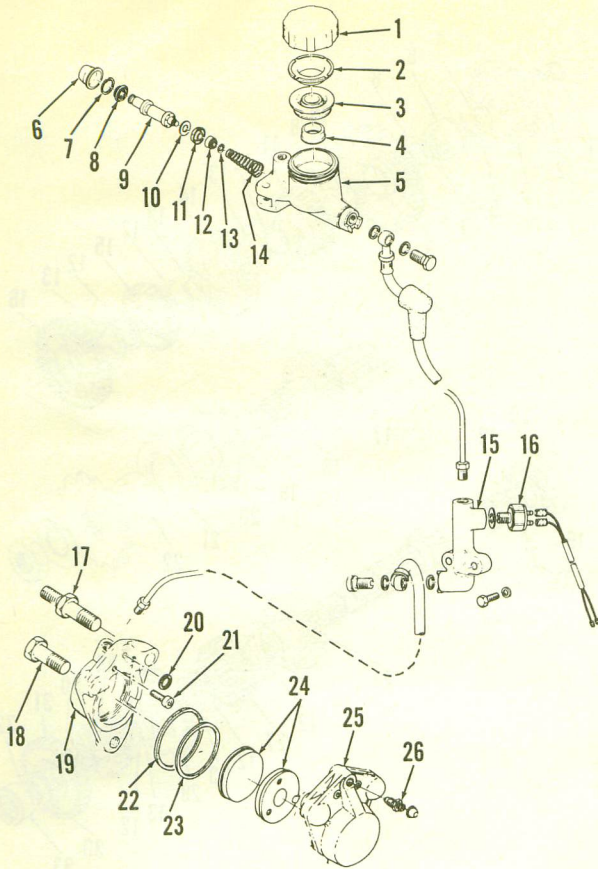
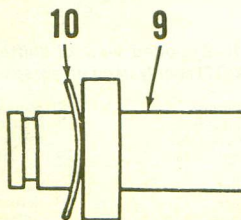

Fig. Y11-6—Exploded view of hydraulic brake system used on models RD350 and RD350A.
Fig. Y11-7—Install spacer (10) on piston (9) with concave side towards end of piston.
If air is present in hydraulic brake system, use the following procedure to bleed brake. Attach end of bleeder hose to bleeder valve (26—Fig. Y11-6) and submerge other end of hose in brake fluid to prevent air from re-entering
Each brake pad has an indicator tab which is painted red or has "INDICATOR" written on it. See Fig. Y11-5A. Renew brake pads if worn to less than 0.5mm (0.020 in.) between edge of pad and wear tab. Wheel and disc must be removed to obtain access to pads. Minimum disc thickness is 6.5MM (0.256 in.) and maximum disc run-out is 0.15MM (0.006 in.). Tighten disc mounting bolts to 80-100 kg.-cm. (70-87 in.-lbs.). Refer to Fig. Y11-6 for exploded view of brake system. Refer to the following points when overhauling caliper and master cylinder: Remove piston from caliper by directing compressed air into fluid passage of caliper. Coat piston and piston bore with brake fluid before installing piston in caliper. Be sure piston does not catch or bind in bore. Manufacturer recommends using new bolts to secure calipers together.
Tighten caliper bolts (17 and 18) to 750-950 kg.-cm. (54-69 in.-lbs.). Tighten caliper bolt and nut which retain caliper to fork leg to 400-500 kg.-cm. (29-36 ft.-lbs.). Install spacer (10) as shown in Fig. Y11-7. Install spring (14—Fig. Y11-6) with big end inserted first.